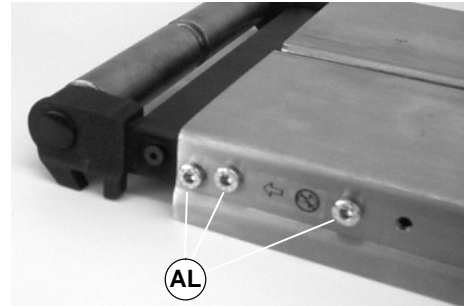

Figure 30
4. Remove three (3) screws (AL of Figure 30) on the side opposite the drive shaft.